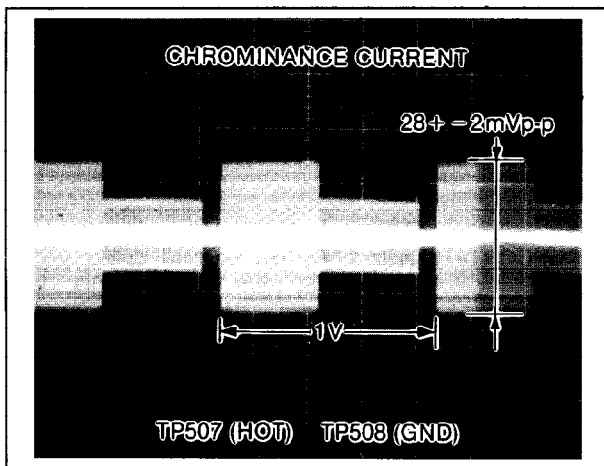

Fig. E4
4. Adjust VR3003 for  $28 \pm 2\text{mVp-p}$  as shown in Fig.E4.